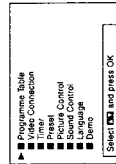

Fig. 2.
- Press the button. The main menu appears. (See Fig. 2.)